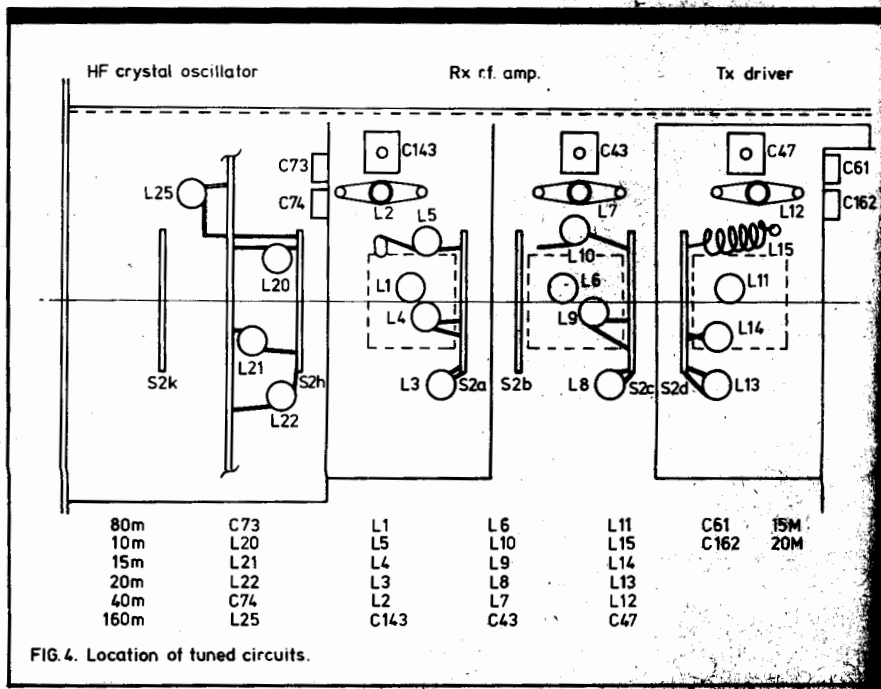
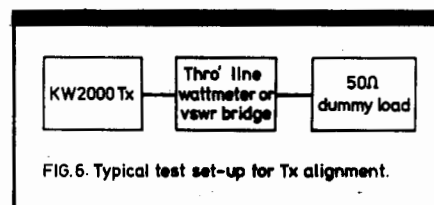

FIG. 4. Location of tuned circuits.
FIG.6. Typical test set-up for Tx alignment.
4. **Table 1** gives the sequence of adjustments to be followed, and **Fig. 4** shows the position of the various tuned circuits. Always tune to the first peak arrived at by screwing the tuning core into the coil, ie. nearest the top of the coil former for the upper core; nearest the lower edge of the former for lower cores.
The rig should be set up as shown in **Fig. 6** and switched to TUNE. The MIC GAIN should then be set to give a PA current of 50mA or less, and the PA tuned for maximum output into the dummy load. The PA grid coil is then adjusted for maximum PA current, reducing the MIC GAIN as necessary to keep the PA current below 100mA. After this, the neutralisation is checked, and the PA grid circuit readjusted if it has been necessary to alter the neutralisation setting, since this will affect the tuning of the grid circuit. Neutralisation adjustment is not necessary on 7, 8.5, and 1.8MHz. **Table 2** gives the sequence of adjustments, and **Fig. 4** shows the position of the components concerned.
3. Adjust as in Table 3 with KW2000 in receive mode. Fig. 4 shows the coil locations.